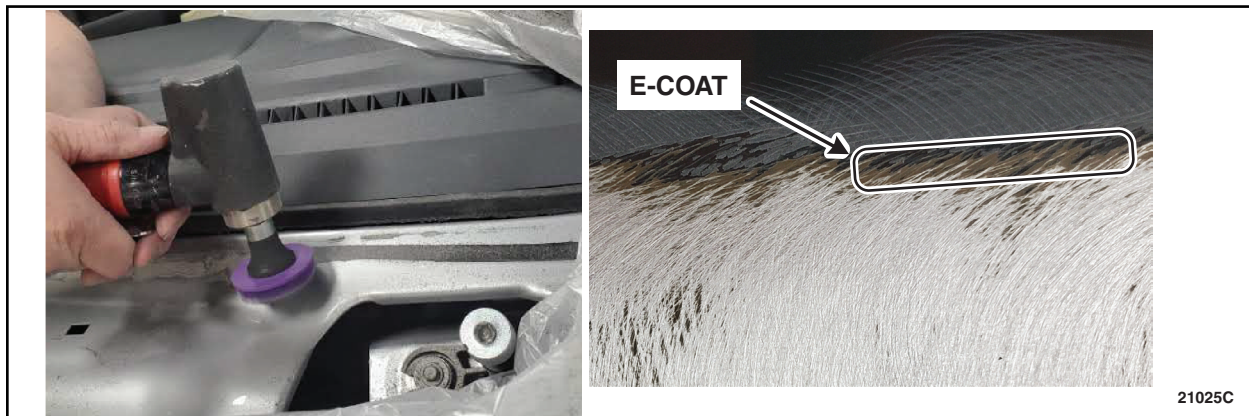

FIGURE 1
3. Using a Scotch-Brite 3M Roloc disk, remove all the urethane, clear coat, base coat, and paint primer only where the urethane will be applied around the entire *windshield body* flange perimeter. The goal is to expose the e-coat without going down to bare metal. See Figure 1.